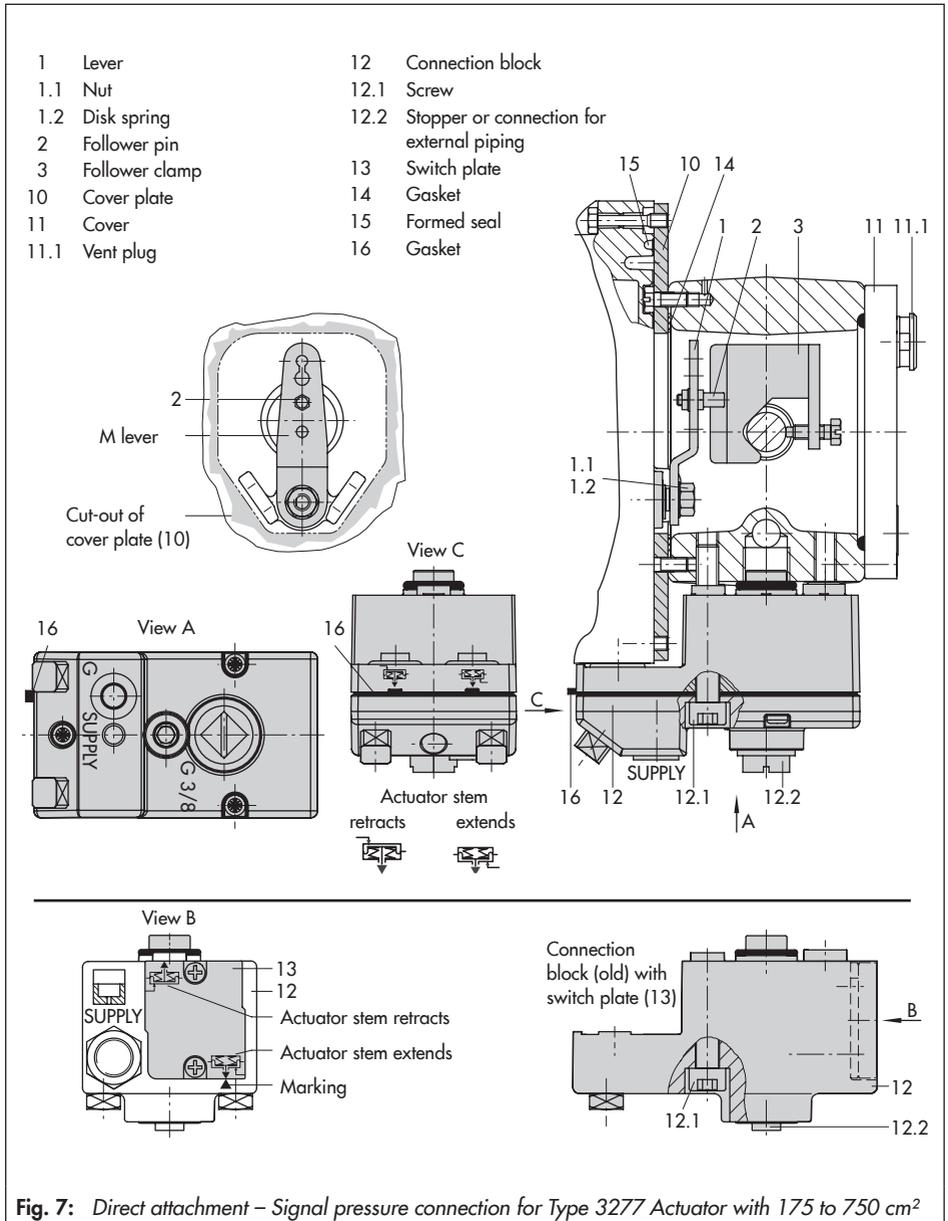

Fig. 7: Direct attachment – Signal pressure connection for Type 3277 Actuator with 175 to 750 cm2
#### Actuators with 175 to 750 cm2 effective areas (see Fig. 7)
1. Place follower clamp (3) on the actuator stem, align it and screw tight so that the mounting screw is located in the groove of the actuator stem.
2. Mount cover plate (10) with narrow side of the cut-out (Fig. 7, on the left) pointing towards the signal pressure connection. Make sure that the gasket (14) points towards the actuator yoke.
3. For actuators with 355, 700 or 750 cm2, remove the follower pin (2) on the **M** lever (1) on the back of the positioner from pin position **35**, reposition it in the hole for pin position **50** and screw tight. For actuators 175, 240 and 350 cm2 with 15 mm travel, keep the follower pin (2) in pin position **35**.
4. Insert formed seal (15) into the groove of the positioner housing.
6. Make sure that the tip of the gasket (16) projecting from the side of the connection block is positioned to match the actuator symbol for the actuator's fail-safe action "actuator stem extends" or "actuator stem retracts". If this is not the case, unscrew the three fastening screws and lift off the cover. Turn the gasket (16) by 180° and re-insert it. The old connection block version (Fig. 7, bottom) requires the switch plate (13) to be turned to align the actuator symbol with the arrow marking.
7. Place the connection block (12) with the associated seals against the positioner and the actuator yoke and fasten using the screw (12.1). For actuators with fail-safe action "actuator stem retracts", additionally remove the stopper (12.2) and mount the external signal pressure pipe.
8. Mount cover (11) on the other side. Make sure that the vent plug is located at the bottom when the control valve is installed to allow any condensed water that collects to drain off.